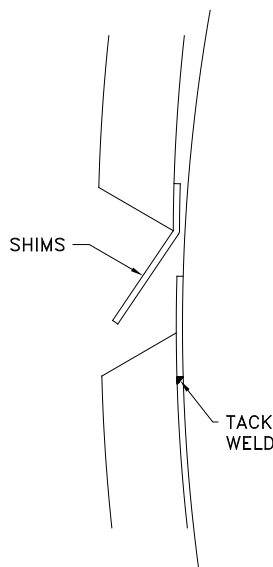

Figure 1
5. It is helpful to tack weld the backing strips (if used) into the bottom half of the sleeve before installing the top half as shown in Figure 1.
6. It may be helpful to use guide shims (not provided), as shown in Figure 1, or other tools such as screwdrivers, to guide the second half over the backing strips.